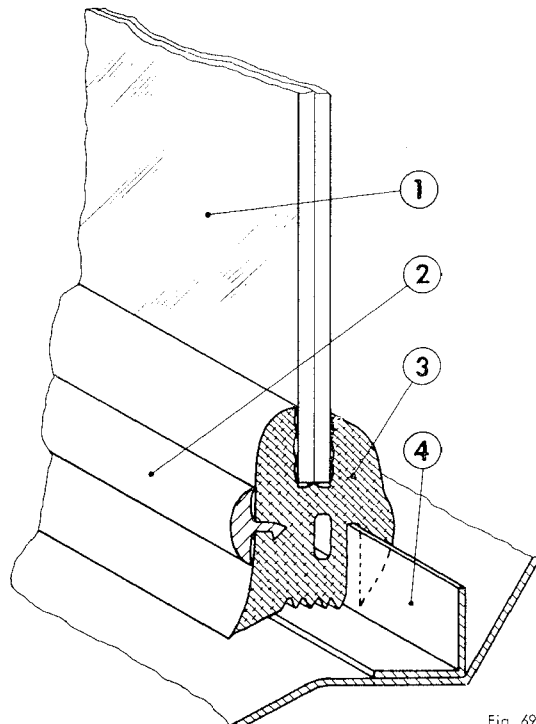

Fig. 69
- Insert a thick cord into the bottom of the slot (item 4 in Fig. 69) so that the cord overlaps at the top.